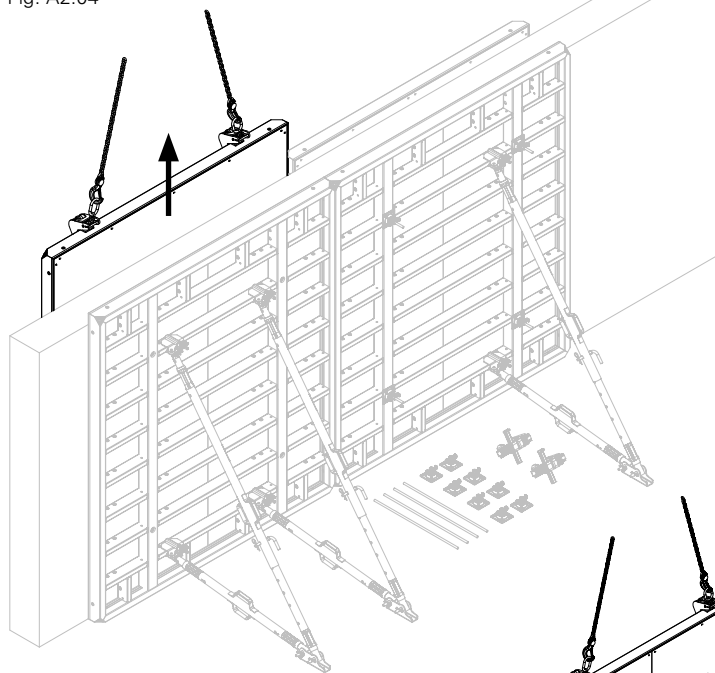

Fig. A2.05
8. Release crane lifting gear. (Fig. A2.05)